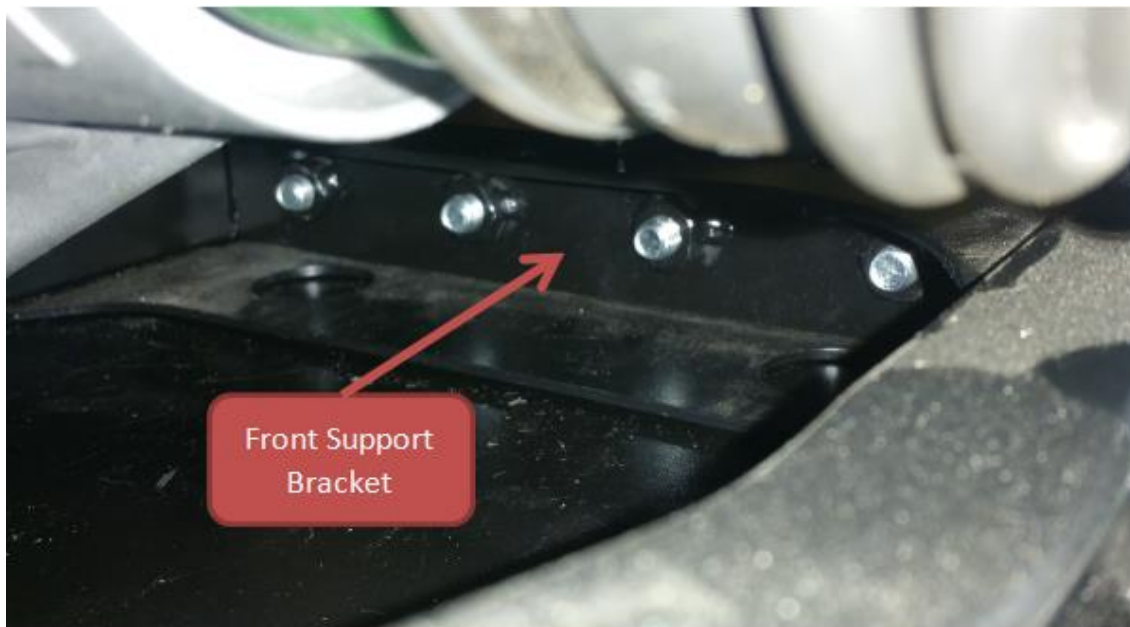
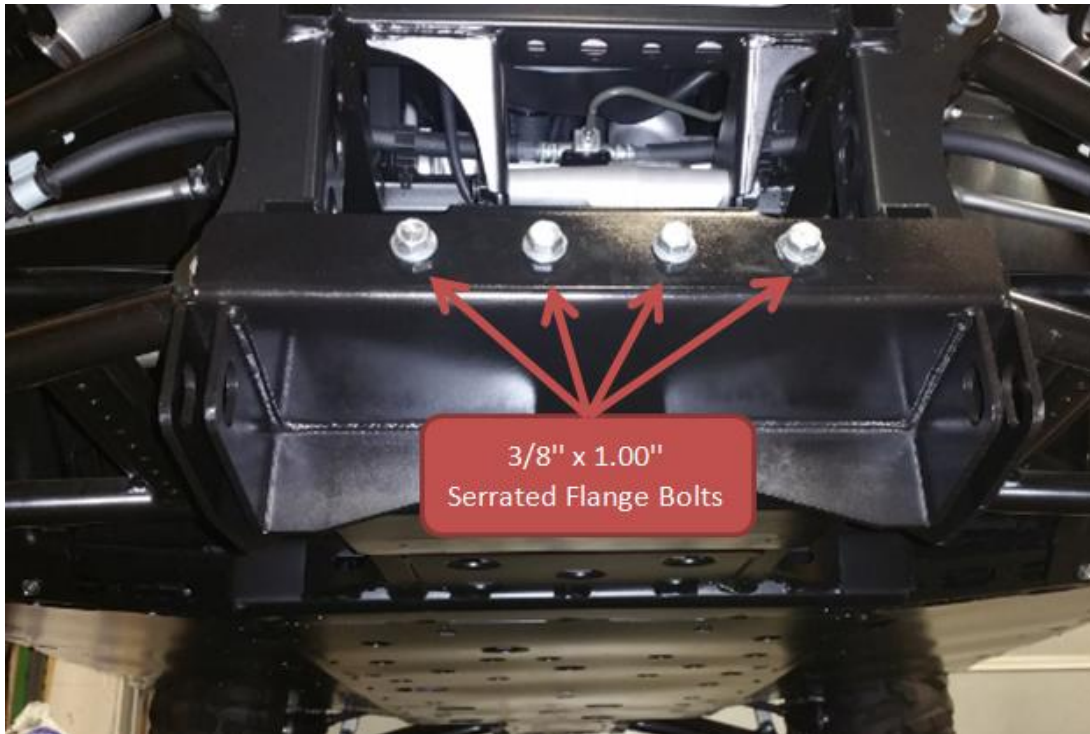

Figure 5
Figure 6
3. Insert the Front Support Bracket (part 2) behind the front face of the Plow Mount (part 1) such that the four holes in the Front Support Bracket (part 2) are visible through the four holes in the front of the Plow Mount (part 1). Insert the remaining 3/8" x 1.00" Serrated Flange Bolts (part 3) as shown in Figure 5 and Figure 6. Tighten the bolts.